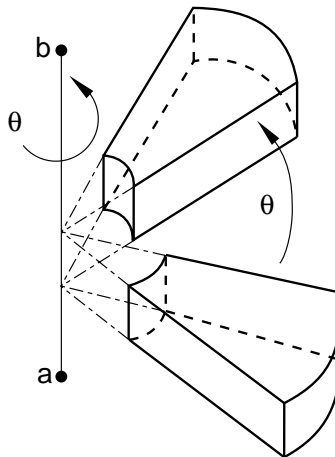

Figure 13.1–1 Rotation of an old-model mesh.
1. X -coordinate of point a on the axis of rotation (see Figure 13.1–1).